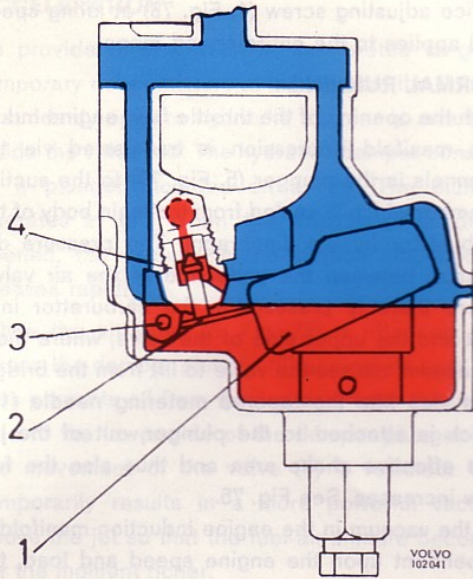

Fig. 71. Float system (Stromberg)
Fuel flows into the floatchamber via the float valve (4, Fig. 71). The float (1), which is made up of twin expanded rubber floats, is carried on the bridge on the lower side of the carburettor housing. As the fuel level rises, the float lifts and, by means of the float arm (2) and tag, closes the needle on its seating when the correct level has been attained.